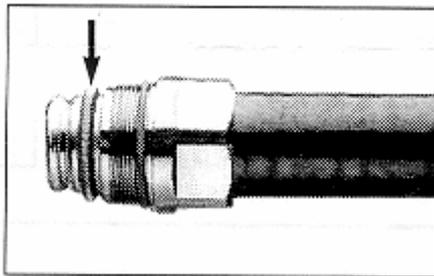

Figure C-13 Adding spring ring
- 7) Place spring ring and fix it in the outer conductor trough of the feeder, as shown in Figure C-13.